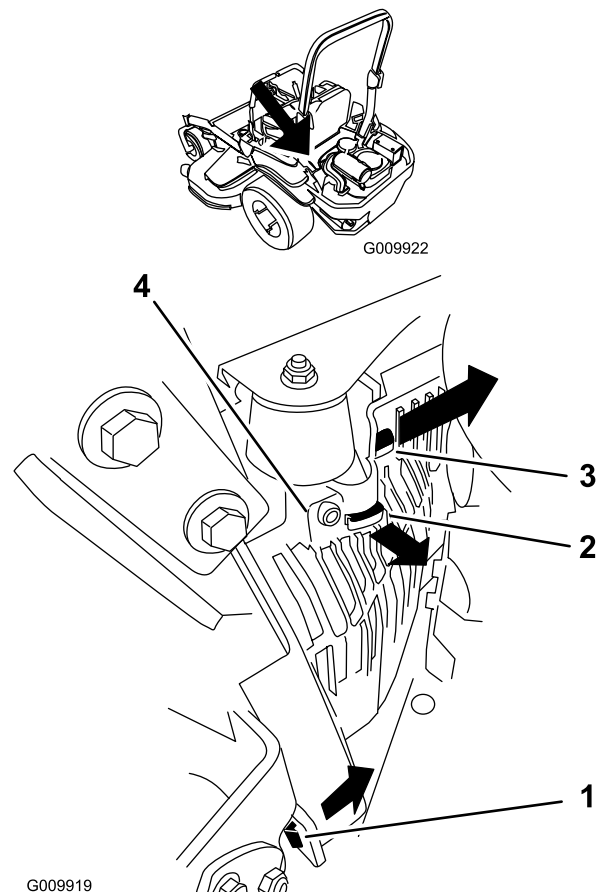

Figure 51
3. Remove the left hydraulic unit shroud in the order listed with Figure 51. This gives you access to the front spark plug.
- Install the left hydraulic unit shroud (Figure 51).